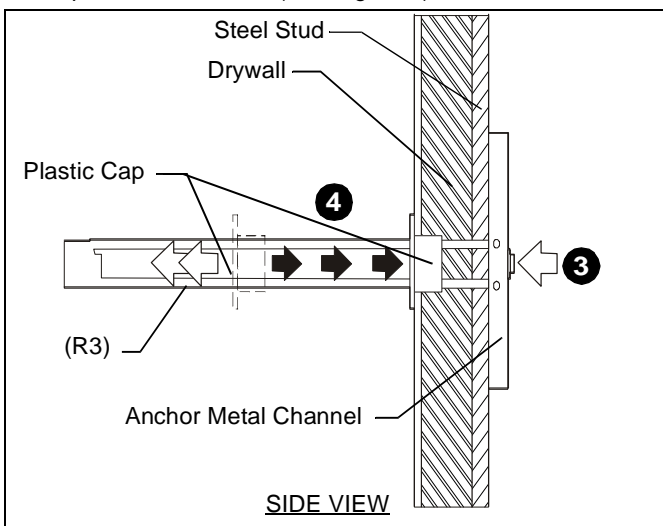

Figure 5
3. Holding plastic straps on anchor (R3), pull anchor away from wall until channel rests flush behind wall making sure anchor channel is positioned vertically on stud. (See Figure 5)
4. Slide plastic cap on anchor (R3) towards wall until flange of cap is flush with wall. (See Figure 5)